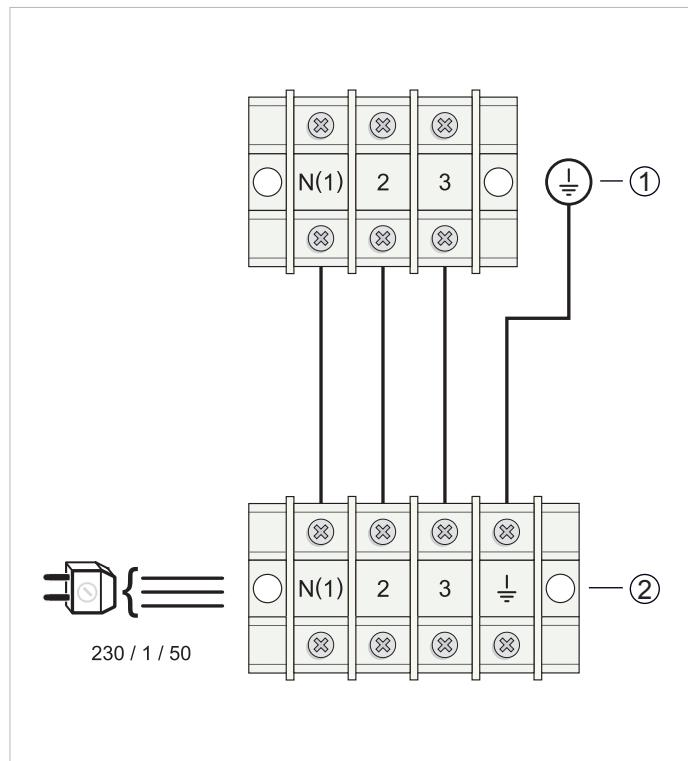

Fig. 11.4 Electrical layout for outdoor and indoor connection
- Pass the electrical cable from the rear of the indoor unit through the specific hole in the front. Connect the cables in the indoor unit terminal space according to the corresponding connection layout. (Figure 11.4 and 11.5).